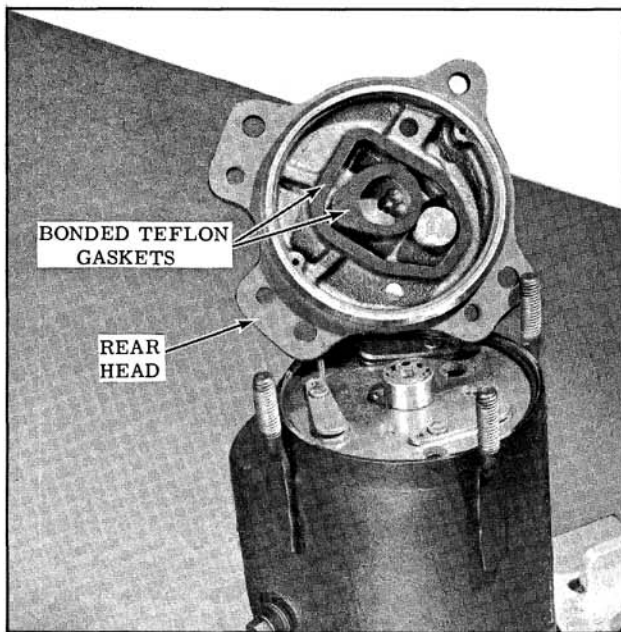

Fig. 14-118 Rear Head Removal
3. Remove the rear head, inspect teflon gaskets on the casting. If teflon gaskets are damaged, replace the rear head. (Fig. 14-118)